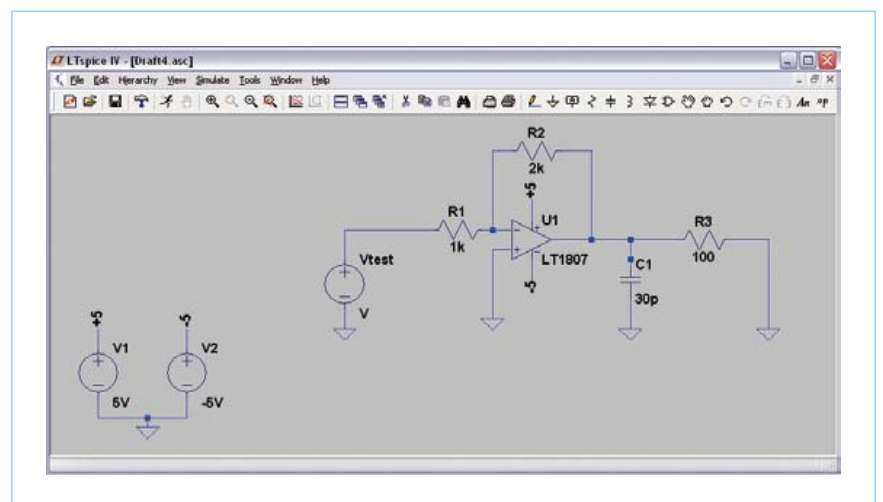

Figure 2. Our first schematic.
**Figure 2** shows the first circuit schematic that we drew. Now we would like to simulate it, but first there are two things that have to be configured: the voltage source 'Vtest' and the simulation parameters.